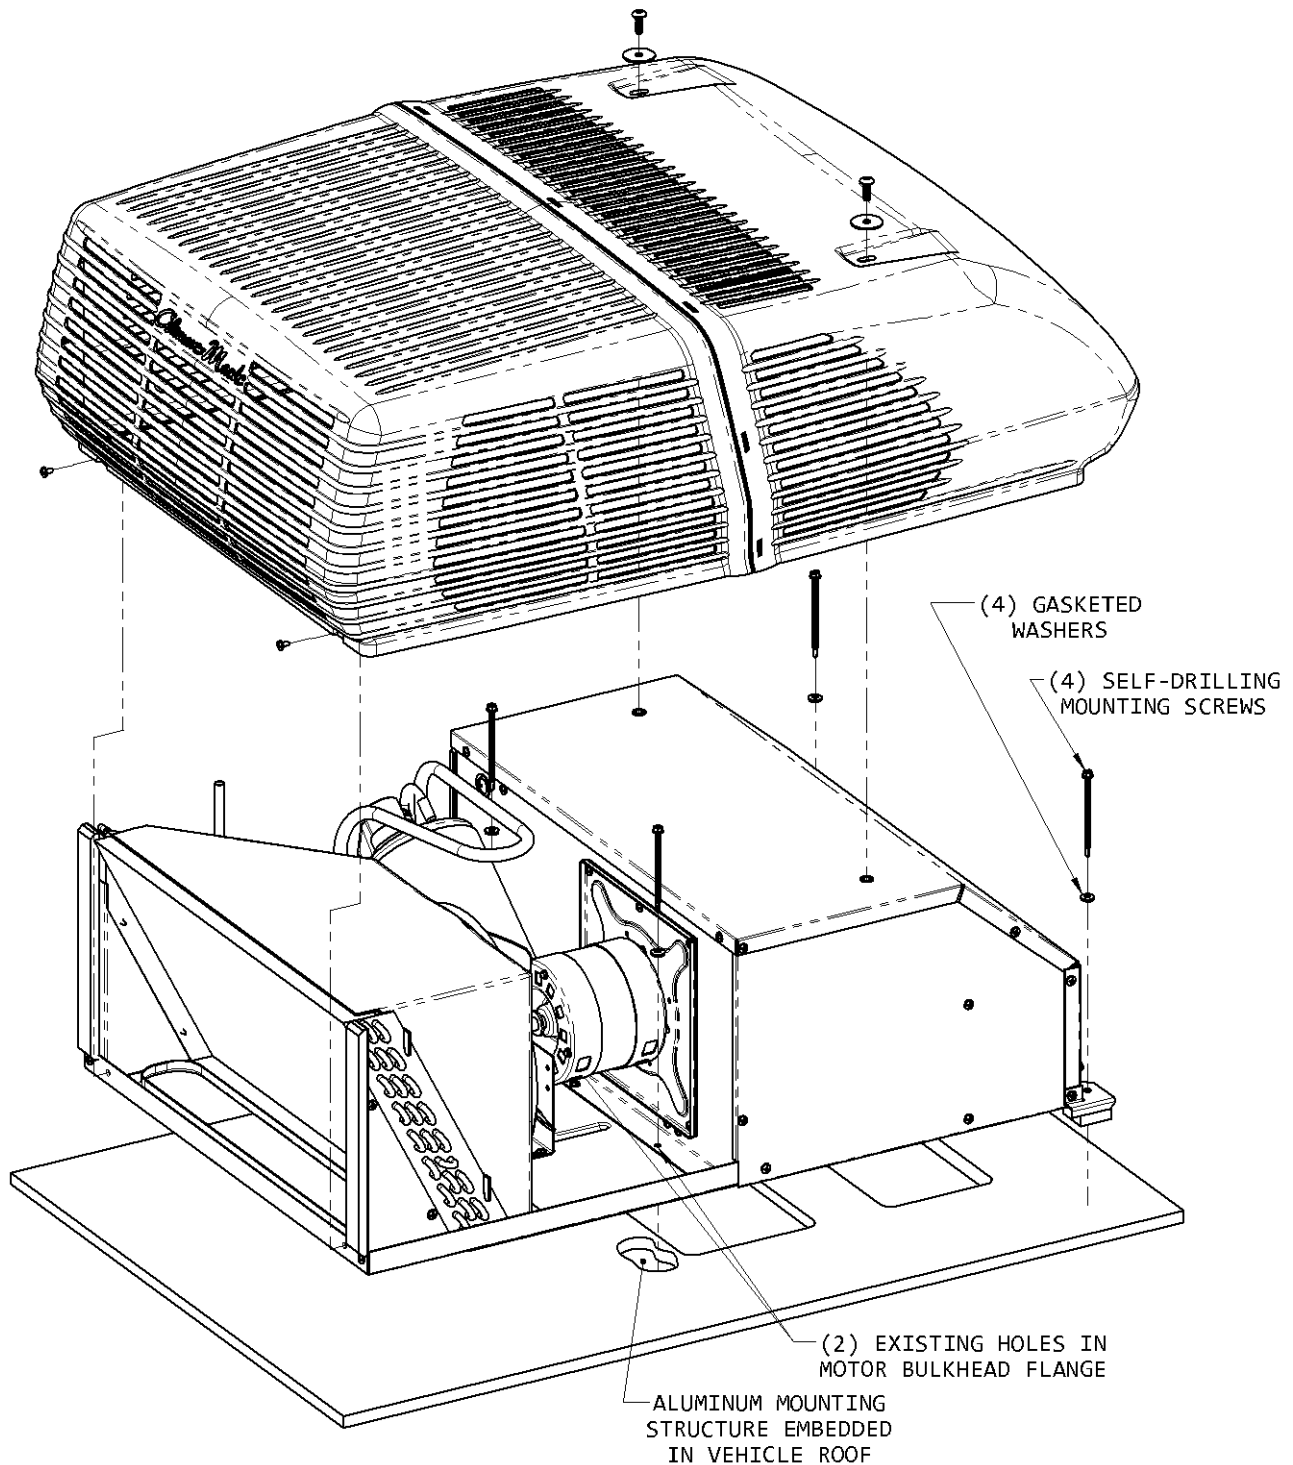

FIGURE 2
6. Using 2 self-drilling screws and gasketed washers, run the screws down through the mounting braces, through the spacers and into the vehicle roof. Tighten screws just until the spacers pull down to the roof. Thread the remaining screws with gasketed washers through the bulkhead flange holes and tighten until the unit gasket has been evenly compressed. Use care to NOT STRIP the screws. See Figure 2.